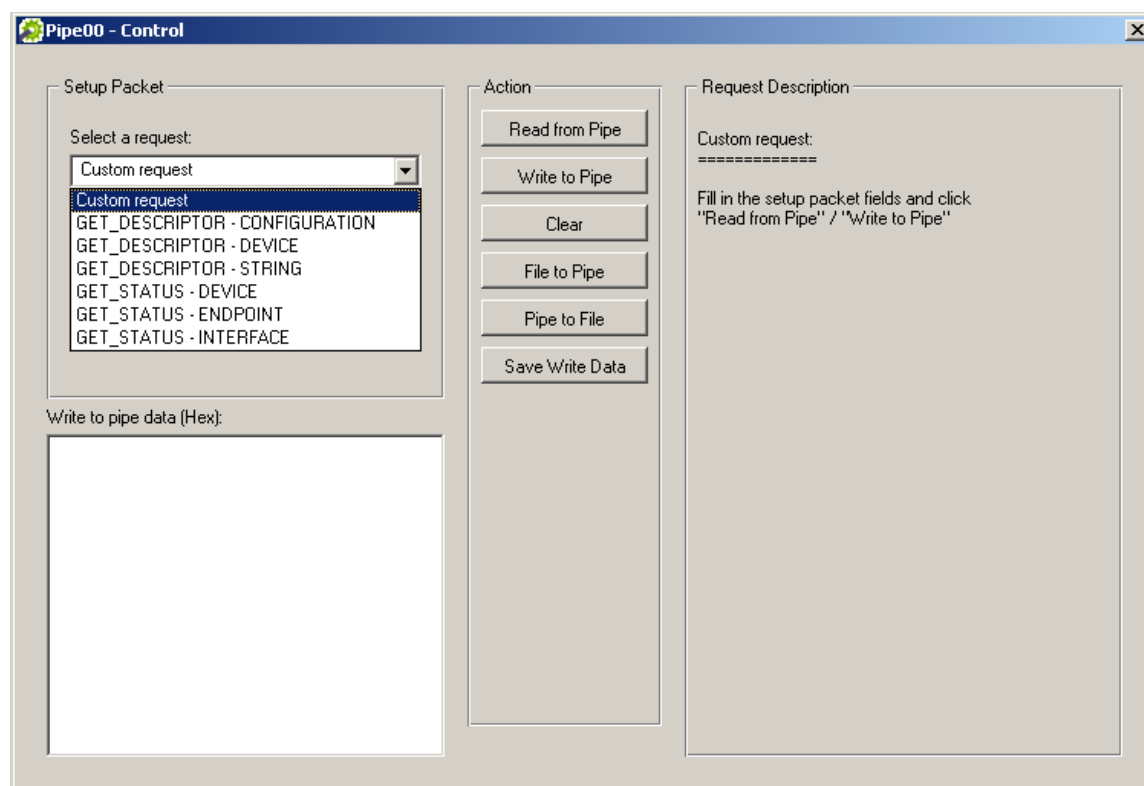

Figure 5.7: USB Requests List
- ii. For a control pipe (a bidirectional pipe), click **Read/Write to Pipe**. A new dialog will appear, allowing you to select a standard USB request or define a custom request, as demonstrated in Figure 5.7.